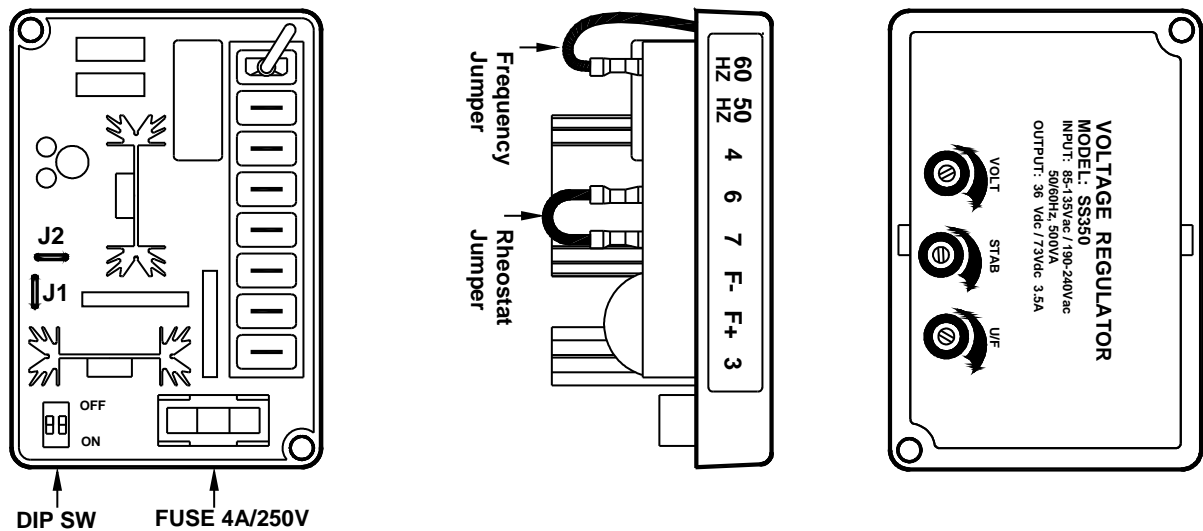

Figure 2 Jumper and Potentiometer Control Locations
- The SS350 potentiometer controls are accessible through the controller front panel and are shown in Figure 2.